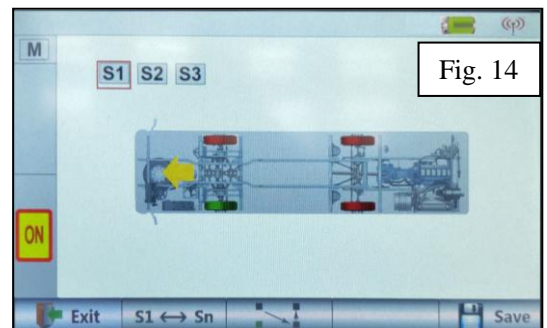

Fig. 14
- Select the column “Sn” by pressing it directly on the screen or the key under $S1 \leftrightarrow Sn$. Once it is selected, its box is highlighted in red (ref. fig.14);